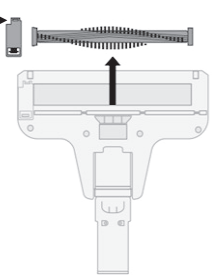

Fig. 18
4. Lift out the brush roller (Fig. 18) and remove any thread, fluff or other obstructions. The brush roller can also be washed under running water if needed. Allow to fully dry.